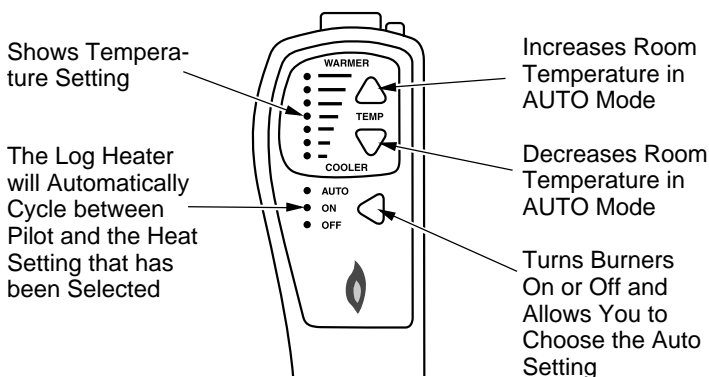

Figure 32 - Thermostat Hand-Held Remote Control Unit Selections (GHRCTA only)
- 2b. Press the AUTO/ON/OFF button on the hand-held remote control (see Figure 32). The lights to the left of the button will show AUTO, ON, or OFF.